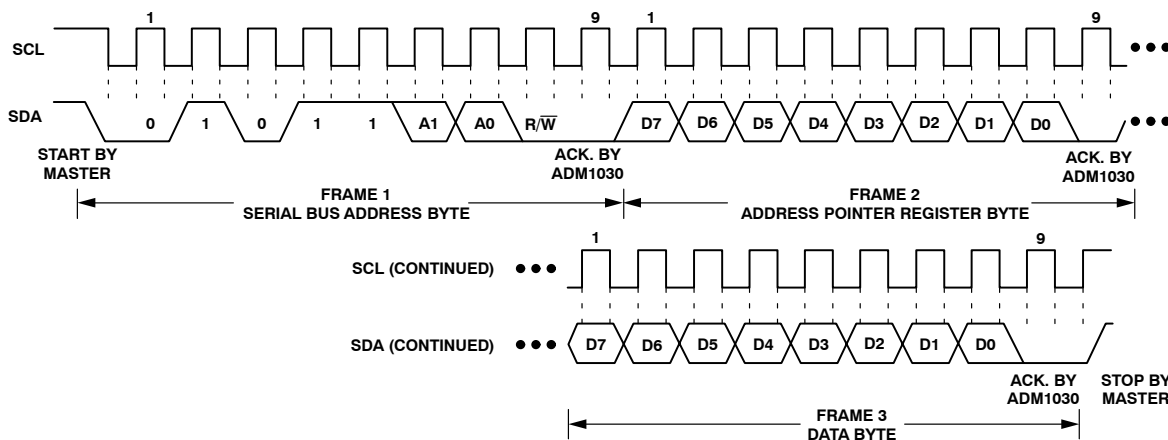

Figure 15. Writing a Register Address to the Address Pointer Register, then Writing Data to the Selected Register
This is illustrated in Figure 15. The device address is sent over the bus followed by R/W set to 0. This is followed by
2. In Figures 15 to 17, the serial bus address is shown as the default value 01011(A1)(A0), where A1 and A0 are set by the three-state ADD pin.